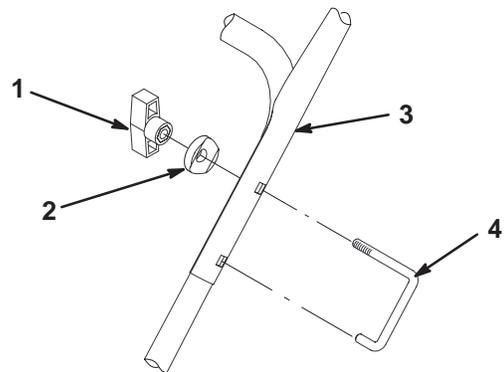

Figure 7
2. Loosen the knob and pull out the handle lock on the right side of the handle until the upper handle rotates freely (Fig. 7).
- Loosely install the handle lock, curved washer, and knob on the left side of the handle as shown in Figure 7.